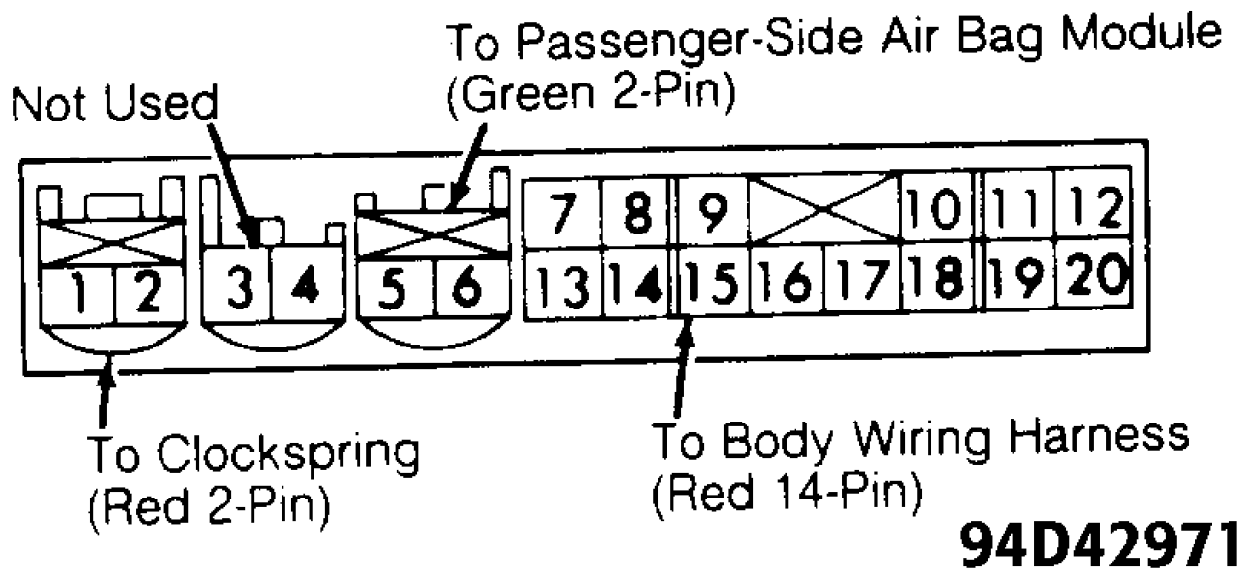

Fig. 12: Identifying SDU Connector Terminals
5) Perform procedure for CODES 21 & 22. If problem still exists, disconnect Green 2-pin connector from SDU terminals No. 5 and 6 (passenger-side air bag module harness). See Fig. 12. Connect SRS check harness connector No. 1 to SDU terminals No. 5 and 6 where passenger-side air bag module harness was connected. This simulates passenger-side air bag module resistance.
2) Remove rear console assembly for access to SDU connectors. See Fig. 7. At SDU connector, use a screwdriver to push lock spring horizontally (toward SDU) to unlock lock lever (DO NOT insert screwdriver between lock lever and lock spring). See Fig. 8. Press and hold lock lever down, and disconnect SDU Red 2-pin connector (clockspring harness) from terminals No. 1 and 2. See Fig. 12.
2) Remove rear console assembly for access to SDU. See Fig. 7. At SDU connector, use a screwdriver to push lock spring horizontally (toward SDU) to unlock lock lever (DO NOT insert screwdriver between lock lever and lock spring). See Fig. 8. Press and hold lock lever down, and disconnect SDU Red 2-pin connector (clockspring harness). See Fig. 12.